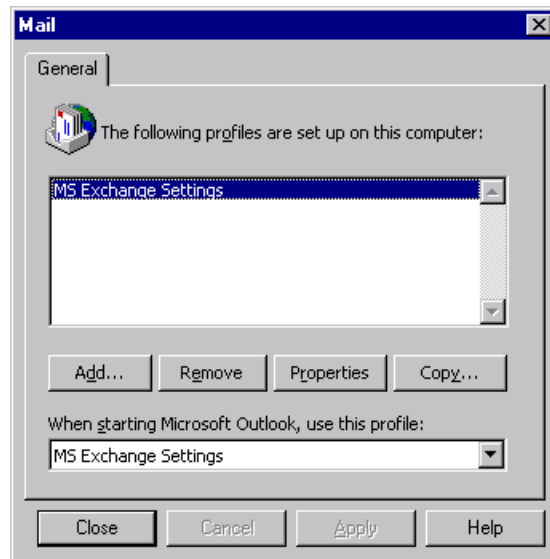

Figure 6-14. Dialog Showing Default Profile
4. Click on Properties button in the screen shown in Figure 6-14. The screen shown in Figure 6-13 reappears -- click on the Properties button in this screen. A screen similar to the one shown in Figure 6-15 appears. Click on the Advanced tab in this screen.